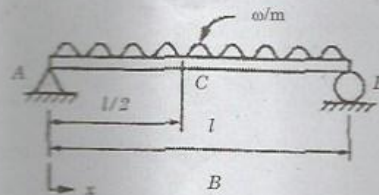

Fig. 11(b)
- (b) Find the deflection at the centre of the simply supported beam of span length 'l' subjected to uniformly distributed load throughout its length as shown in Fig. 11(b) using (i) point collocation method (ii) sub-domain method. (16)